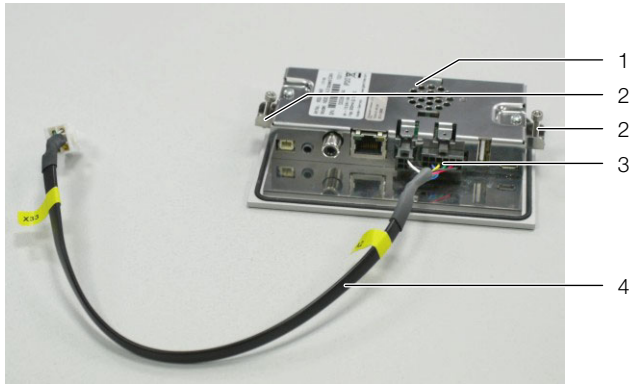

Fig. 56: Preparing the graphic display
- Insert the fastening clamps with screws (fig. 56, item 2) on the left and right of the display.
- Insert the connection cable (fig. 56, item 4) into the bottom of the display (fig. 56, item 3).